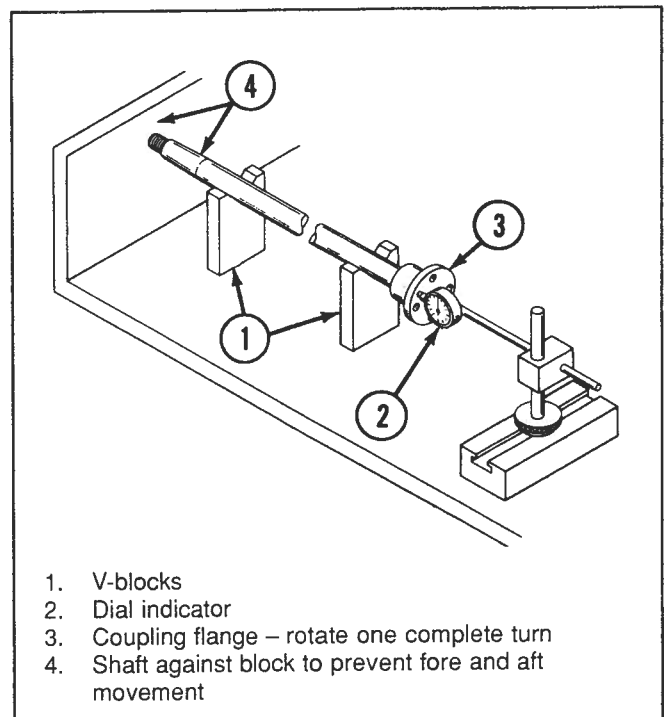

Figure 11-18. Checking Coupling Bore
2. Check that the bore of the coupling is 90° from coupling flange (Figure 11-18). Replace coupling if needle moves.